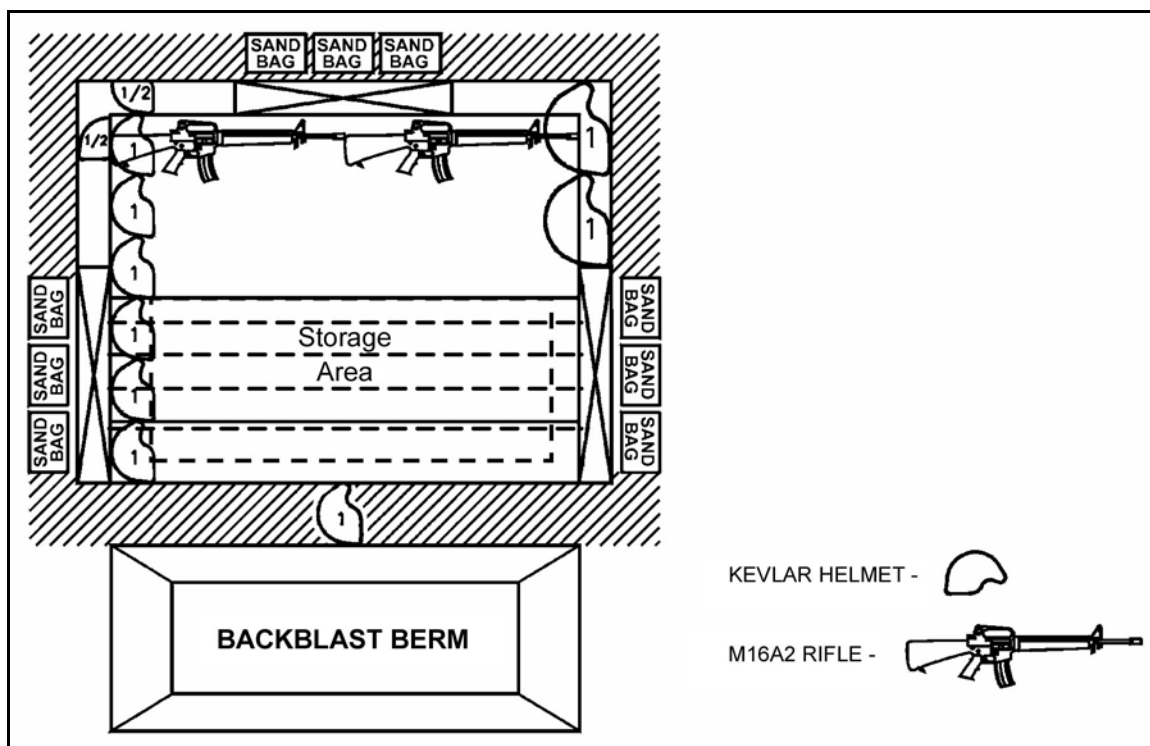

Figure 4-17. Top view of a Javelin defensive fighting position.
(3) *Top View*. Figure 4-17 shows the top view of a Javelin defensive fighting position.